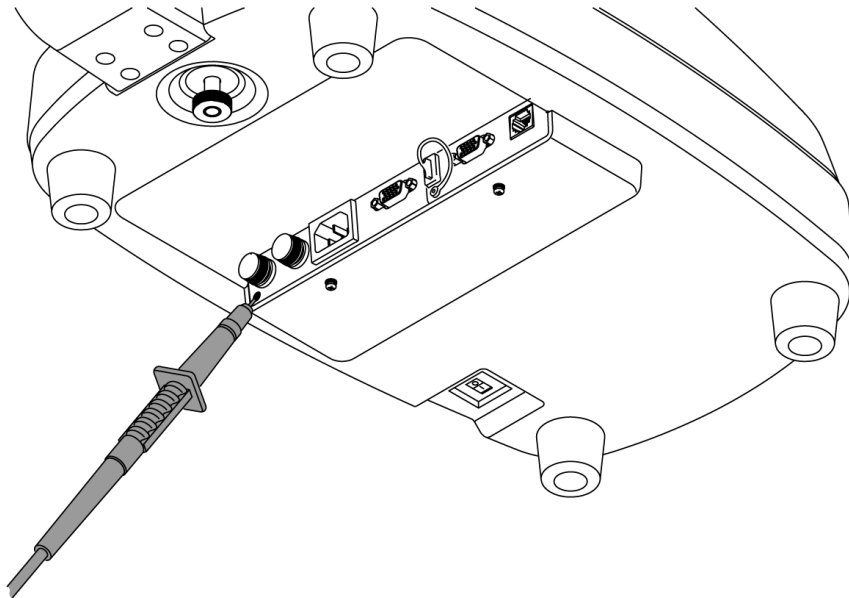

Fig. 67 Performing an electrical safety inspection
- Check the protective earth conductor resistance. For this purpose, connect the device to the measuring device using the power cable. To perform the measurement, press the measuring tip against the metallic holding plate (Fig. 67) of the plugs on the bottom of the device. The measured value may not exceed 0.3 Ω .
- After successful measurement, the device leakage current must be measured. This is preferably done using the differential current method while the device is in its operating state. Press the measuring tip once more against the metallic holding plate (Fig. 67) of the plugs. The measured value may not exceed 0.5 mA.